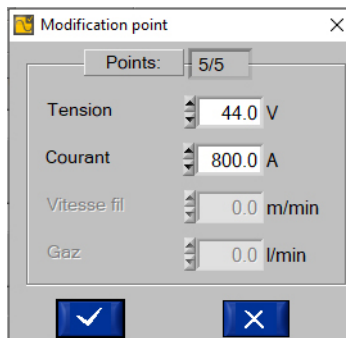

Fig. 13: «Editing point» page
- - The points are not suitable, in this case, go on the point to be corrected and click on the «Modify» tab. The «Point modification» page (Fig. 13) opens.